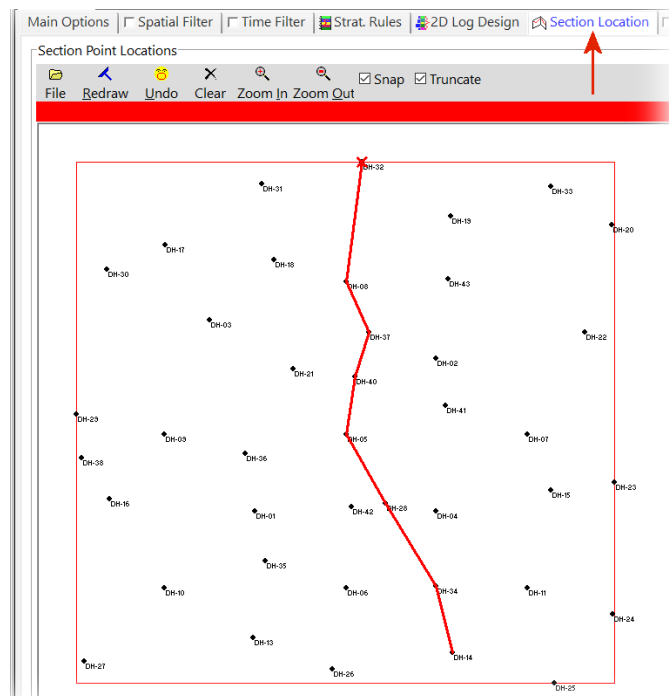

Figure 82
- Click on the *Section Location* tab at the top of the *Model-Based I-Data Section* menu (Figure 82) and draw the path of the cross-section by first clicking on well DH-32 (at the top) and move downwards to DH-08, DH-37, DH-40, and so on.